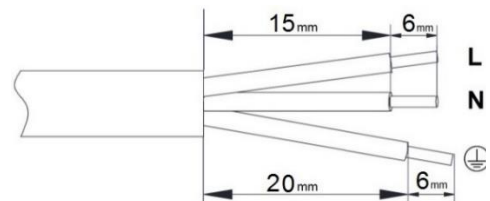

Fig. 2
- At both ends of the electric cable, strip the wires as Fig. 2.